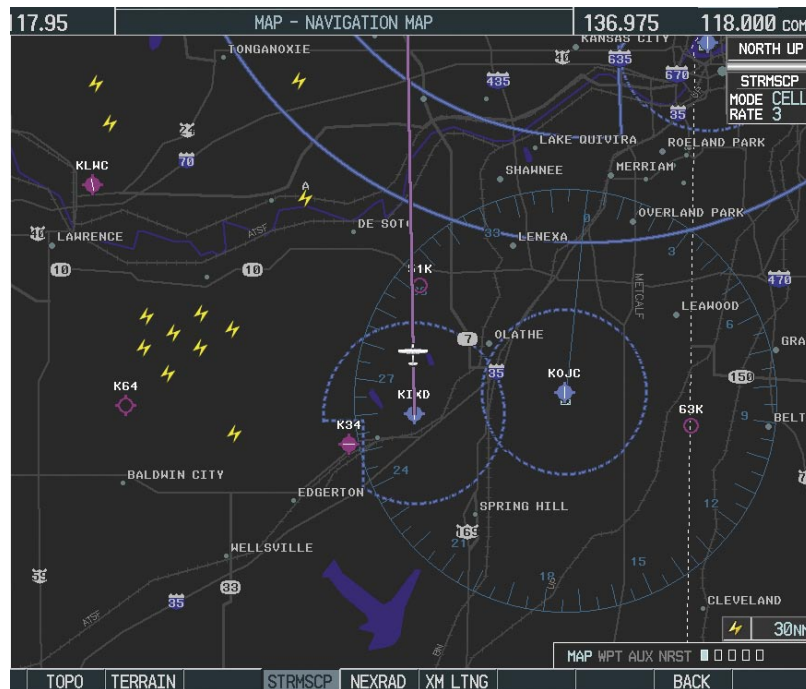

Figure 6-39 Navigation Map Page with Stormscope Lightning Data
- 7) Press the **FMS** Knob to return to the Navigation Map Page (Figure 6-39).
On the Navigation Map, cell mode identifies cells of lightning activity (Figure 6-39). Stormscope identifies clusters of electrical activity that indicate cells. Strike mode indicates the approximate location of lightning strikes.